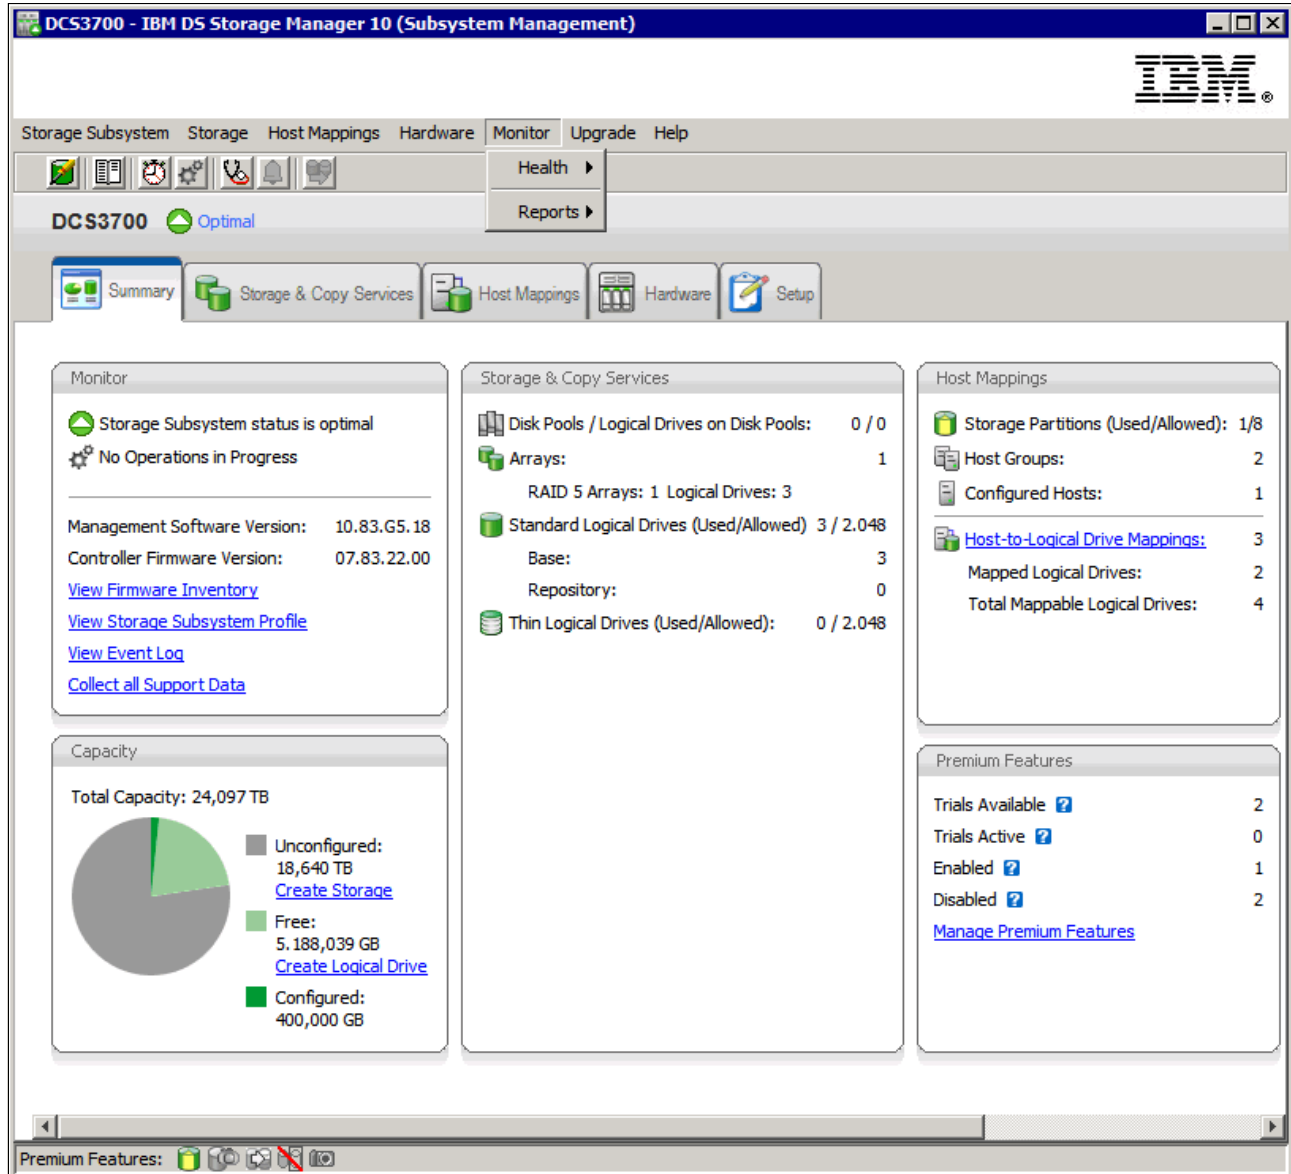
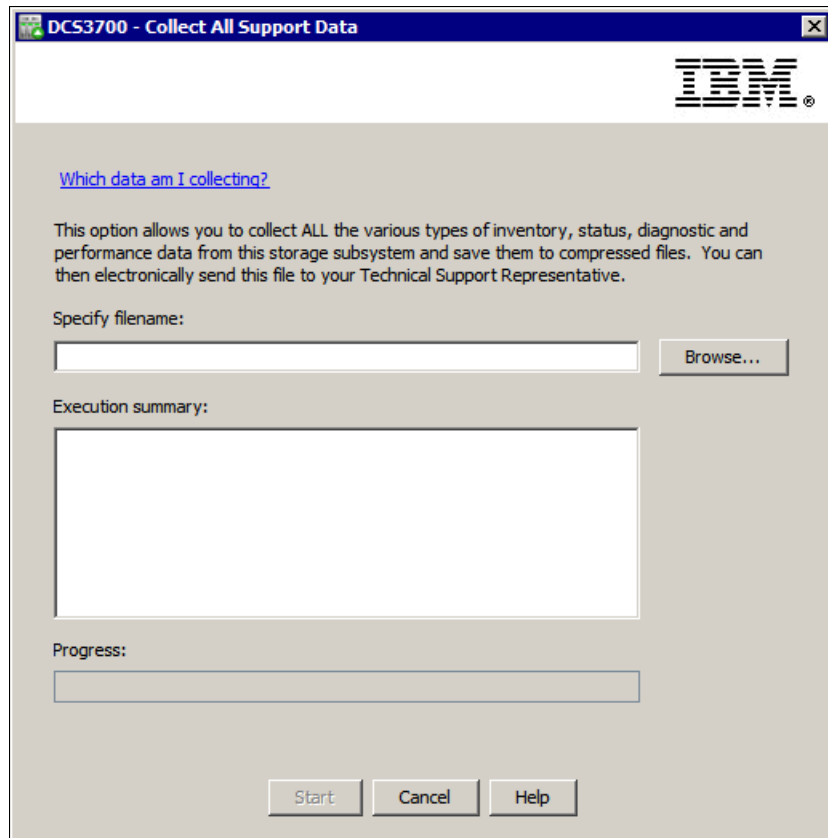

Figure 13-1 The DS Storage Manager (Subsystem Management) Monitor menu
Figure 13-8 Collect All Support Data window
This section introduces the monitor functions that are accessed from the DS Storage Manager (Subsystem Management) Monitor menu that is shown in Figure 13-1.
- ▶ Click the **Collect all Support Data** link in the main Summary tab (Figure 13-1 on page 386) to open the Collect All Support Data window (Figure 13-8).